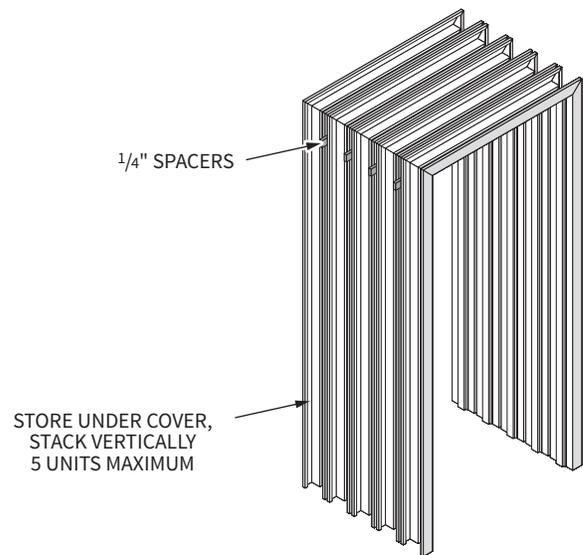

Figure 3: Storage of Assembled Frames
2. Assembled frames shall be stored in a vertical positions, five units maximum in a stack. Provide a 1/4" space between frames to promote air circulation (Figure 3).